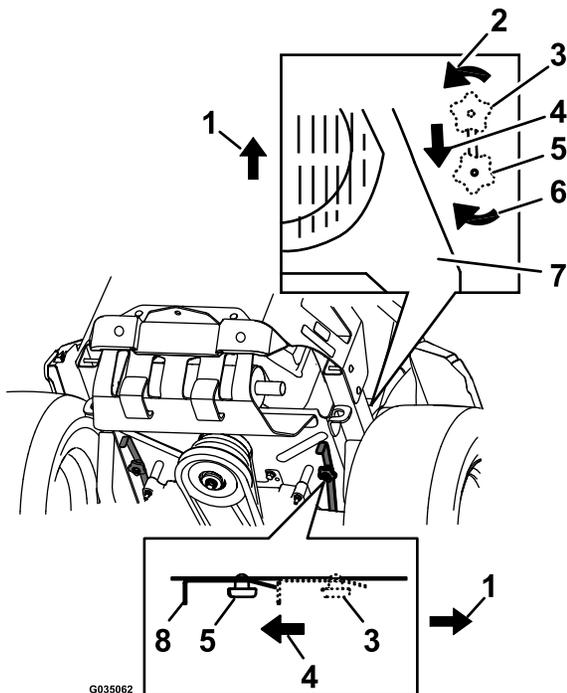

Figure 9
the machine has to be pushed by hand, the valves must be in the “released” position (see Figure 9).
To release the drive system (see item 1 in Figure 9), loosen the knob by turning counterclockwise. Then pull the release lever on the underside of machine towards the back of the machine and retighten the knob to hold the release lever back in the released state. Repeat this on each side of the machine.
To reset the drive system (see item 2 in Figure 9), loosen the knob by turning counterclockwise. Then push the release lever on the underside of machine towards the front of the machine and retighten the knob to hold the release lever in the operating state. Repeat this on each side of the machine.